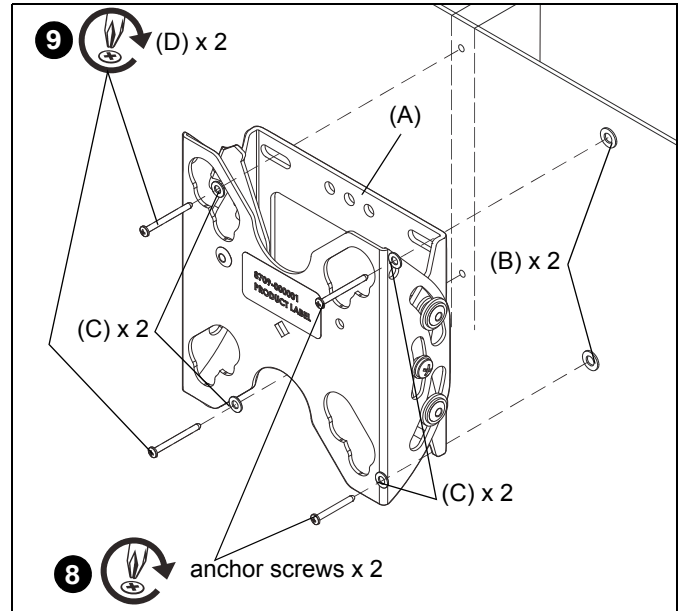

Figure 5
- Insert anchor screws through two #10 washers (C), FTR assembly (A) and install into collapsed anchors (B). (See Figure 5)
- Install two #10 x 2-1/2" Phillips tapping screws (D) through two #10 washers (C), FTR assembly (A) and into wood stud. (See Figure 5)